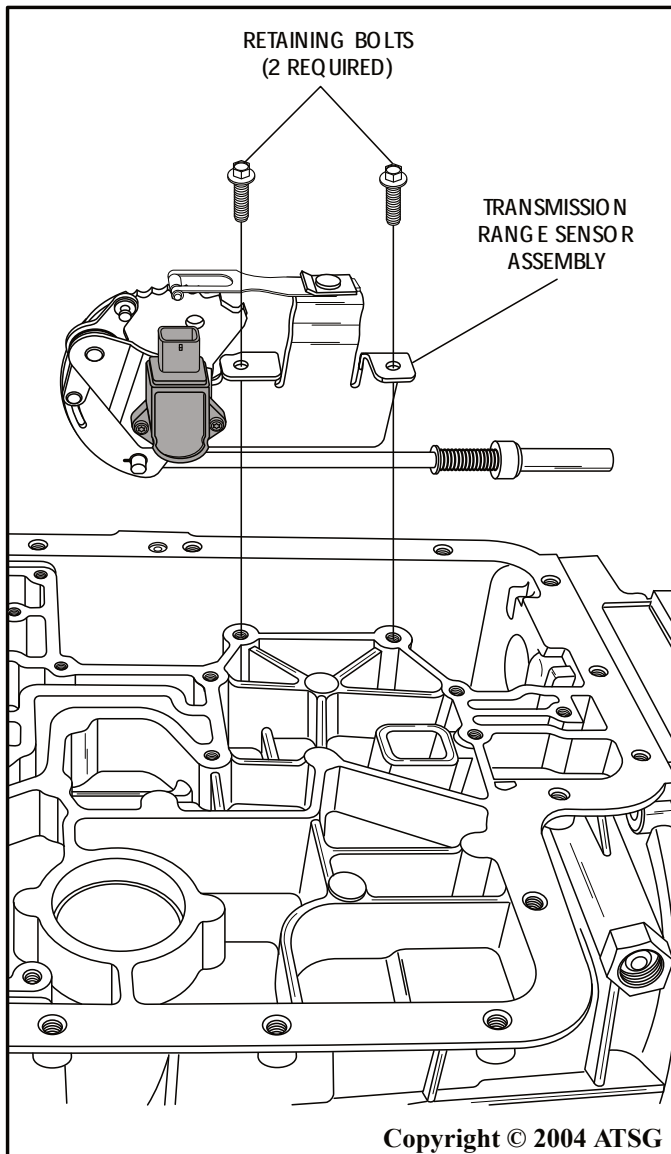

Figure 57
11. Rotate the case with pan surface facing up and install the park rod, inside detent lever and the transmission range sensor (See Figure 57).